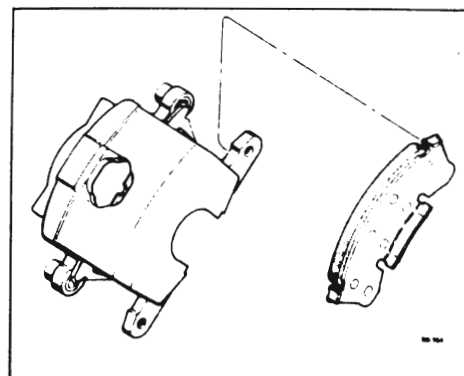

Figure 50-40--Installing Outboard Shoe
5. Position the outboard shoe in the caliper, with the ears at the top of the shoe over the caliper ears and the tab at the bottom of the shoe engaged in the caliper cut-out. See Figure 50-40.